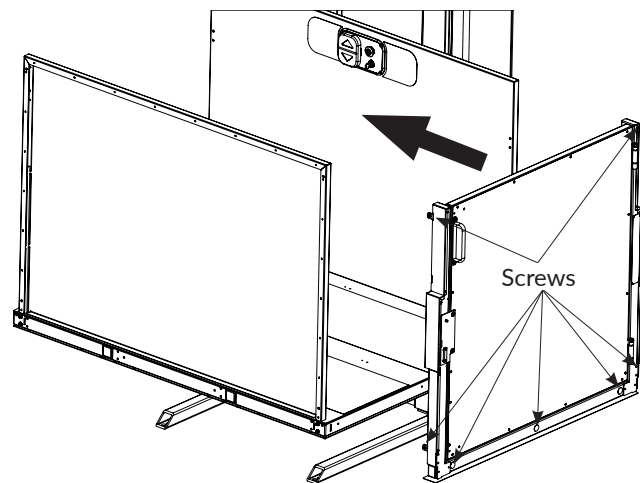

Figure 4-6
2. Install (4) $\frac{1}{4}$ " - 20 x $\frac{5}{8}$ " screws through tabs in gate frame into threaded holes on platform panels. *See Figure 4-6.*